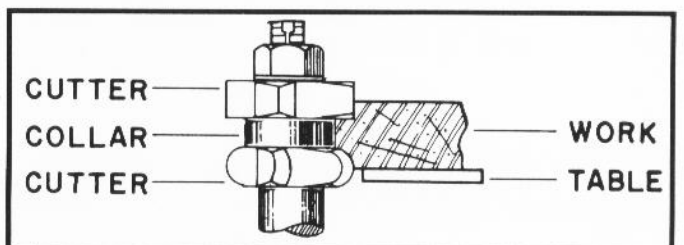

Fig. 36
4. The collar between cutters method, as shown in Fig. 36, has both the advantages of the first two methods and is frequently used where both edges of the work are to be shaped.